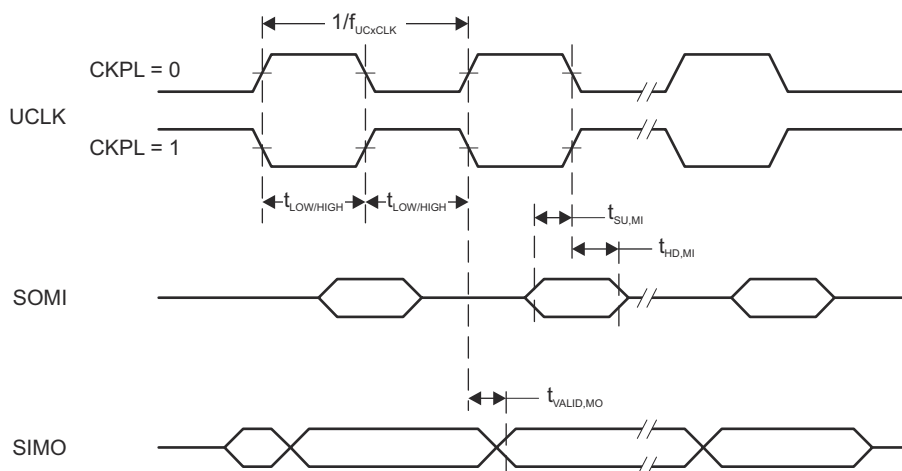
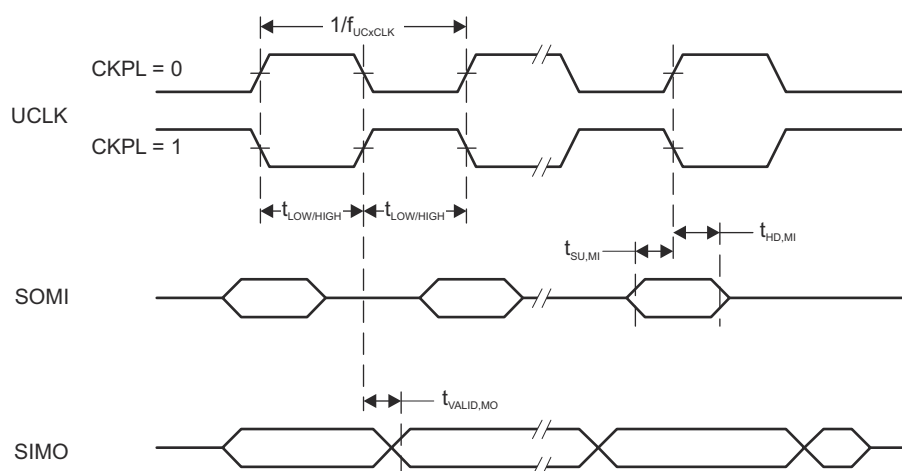

图 8-10. SPI Master Mode, CKPH = 0
图 8-11. SPI Master Mode, CKPH = 1
- (2) Specifies the time to drive the next valid data to the SIMO output after the output changing UCLK clock edge. See the timing diagrams in Figure 8-10 and Figure 8-11.
- (3) Specifies how long data on the SIMO output is valid after the output changing UCLK clock edge. Negative values indicate that the data on the SIMO output can become invalid before the output changing clock edge observed on UCLK. See the timing diagrams in Figure 8-10 and Figure 8-11.